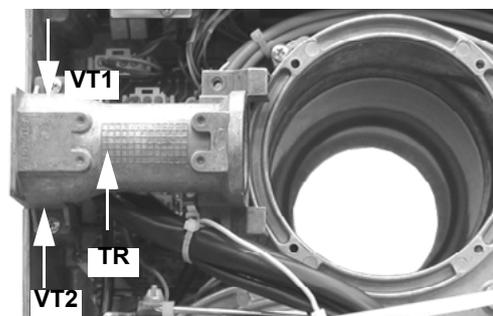

Fig. 19
- 6 Take the gas pipe **TR** off and put it in the new position fixing the screws **VT1** and **VT2** (Fig. 19).